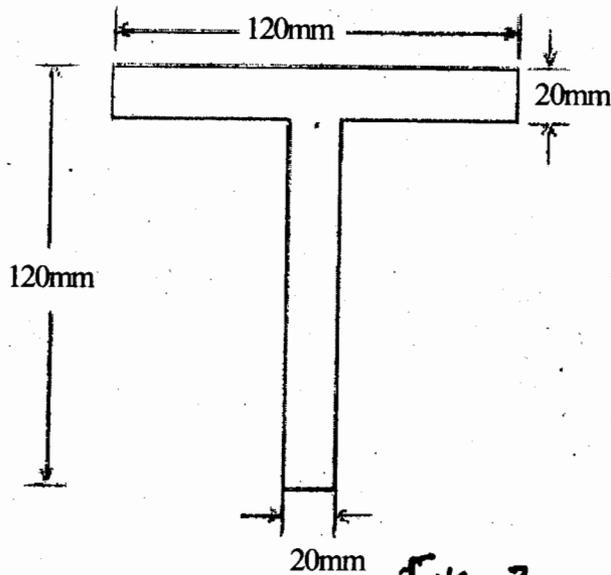

Fig. 3
- e) Define shape factor and obtain its value for T-section with the following dimension shown in the fig.3 if the yield stress is 250 N/mm^2 . Find M_p .